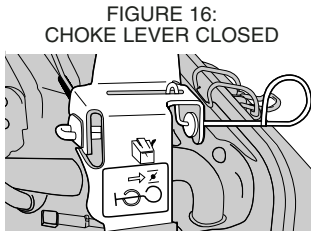
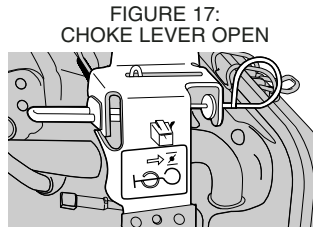

FIGURE 16: CHOKE LEVER CLOSED
FIGURE 17: CHOKE LEVER OPEN
4. If the engine is cold, pull the choke lever out to the closed position shown in figure 16. If the engine is hot, set choke to open position shown in figure 17.
7. As the engine warms up, move the choke lever to the open position shown in figure 17.
5. As the engine warms up, move the choke lever to the open position as shown in figure 17.